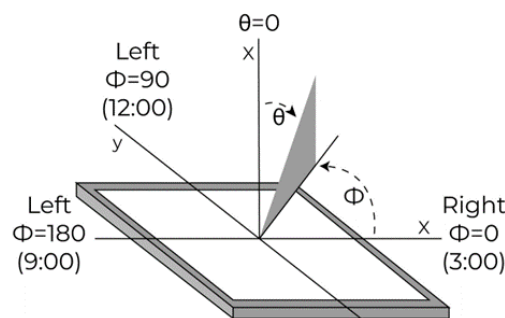

Figure 4. The definition of viewing angle
**Note 6.** For TFT module the contrast ratio is greater than 10. The angles are determined for the horizontal or x axis and the vertical or y axis with respect to the z axis which is normal to LCD surface. For more information see Figure 4.